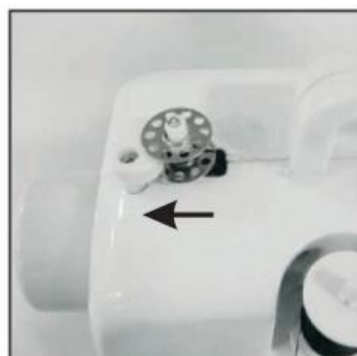

Fig.13
3. Put the bobbin on the bobbin winder pin, wind thread clockwise around bobbin several times.(Fig.13)